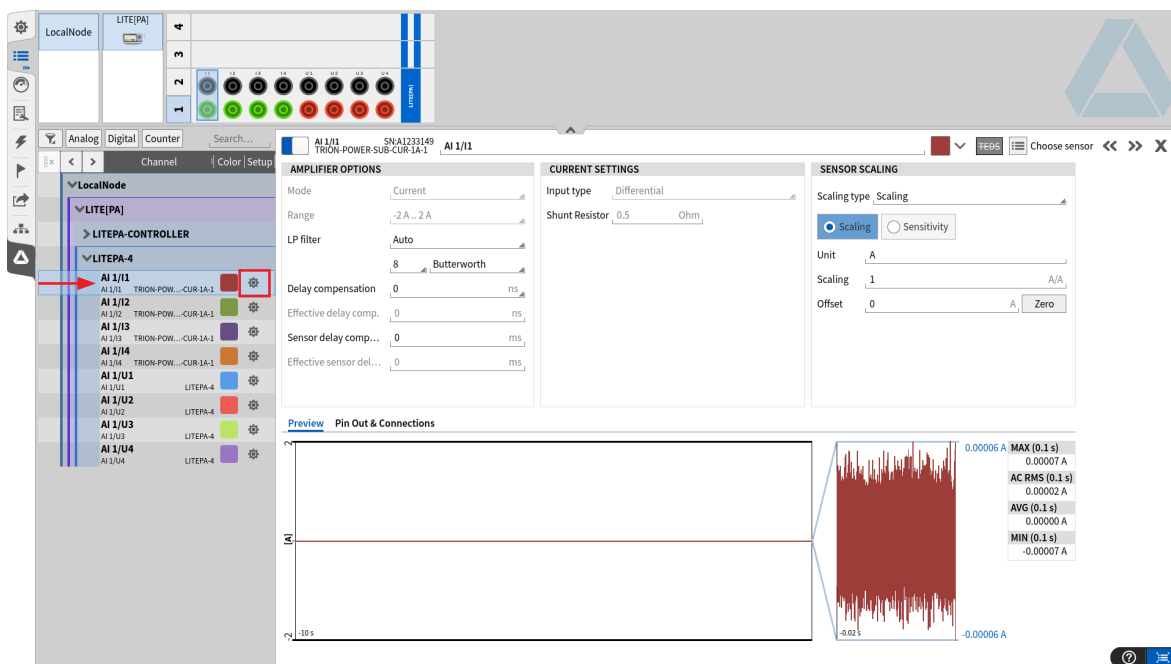

Fig. 17: Changing channel settings
2. Alternatively, the channel settings will also open by clicking on the gear button (see Fig. 17).